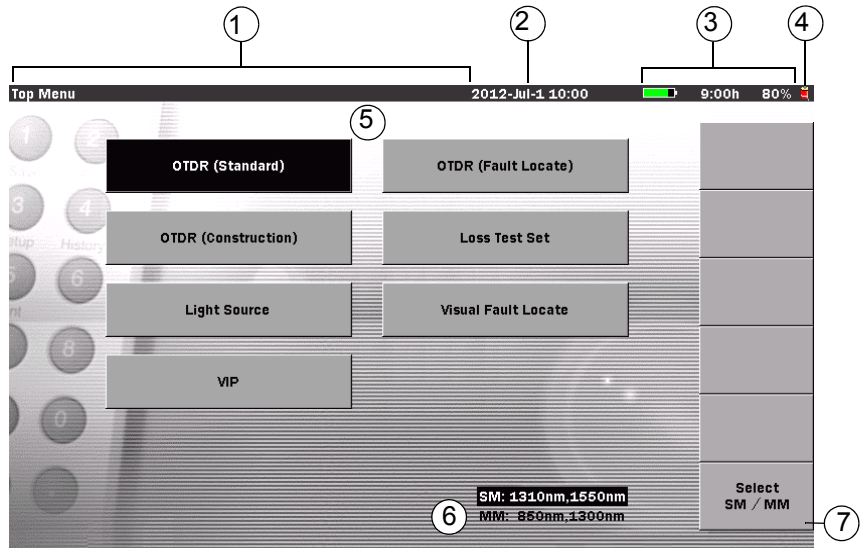

Figure 3-2: Top Menu Screen
The Battery Status area (see item 3 in Figure 3-2 on page 3-3) displays the battery indicator and the remaining battery power.